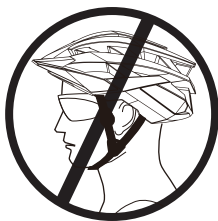

Fig. 2. Incorrect
- Fig. 2 illustrates the incorrect position for the helmet. Failure to wear the helmet properly may cause discomfort to the rider or even cause the helmet to shift or fall off during an accident.